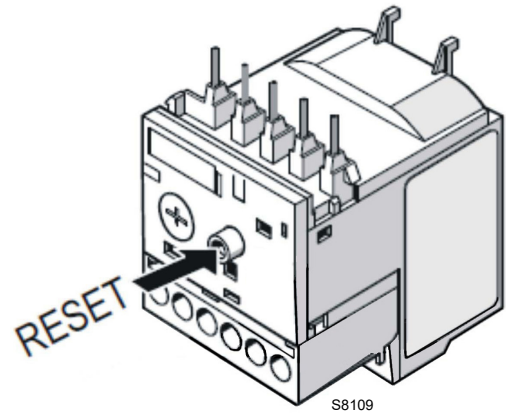

Fig. 33
- To reset, in the case of an intervention of the thermal relay, press the button **"RESET"** (Fig. 33).